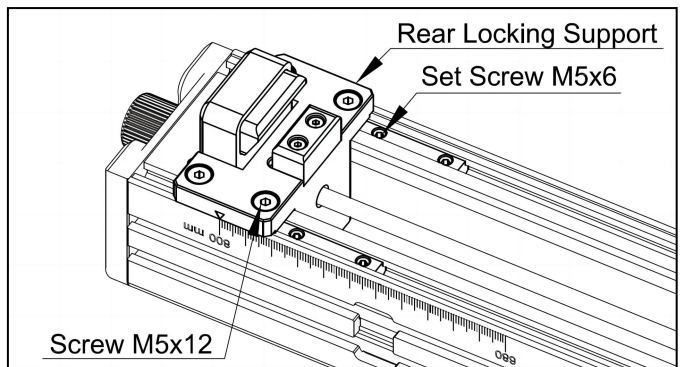

Fig. 6-16
- (1) As shown in Fig. 6-16, flip the Fence Assembly (C) upside down and loosen the four M5x12 screws on the Rear Locking Support and four M5x6 set screws as indicated.
- (2) Move the Rear Locking Support until the pointer aligns with the correct scale indicating the table width and then tighten the previously loosened screws.